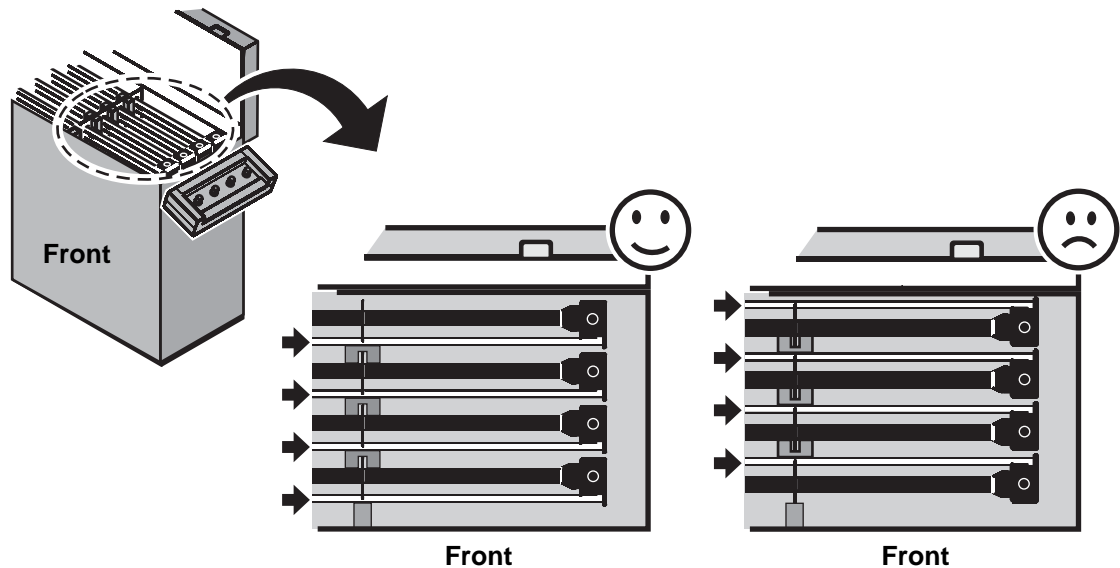

Figure 2: Panel orientation in flightcase
1. Insert panels with the clear LED tubes facing the front of the flightcase as shown in Figure 2, and